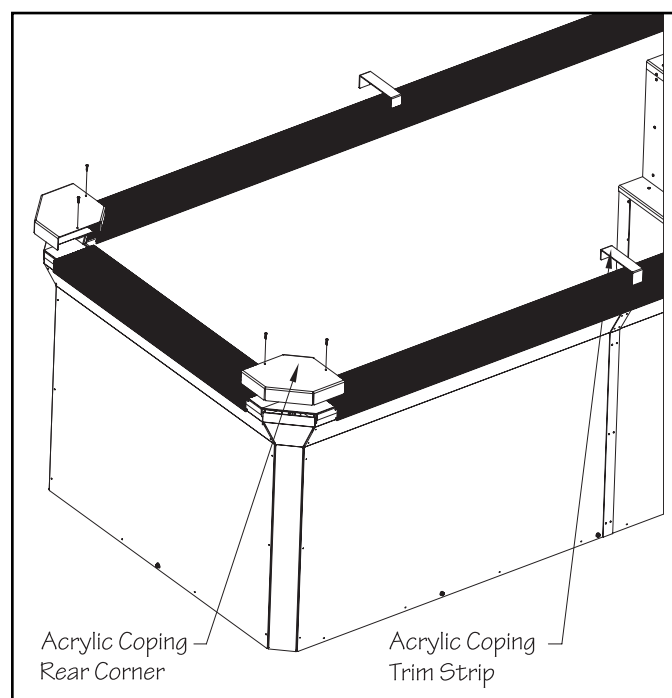

Fig. 71
**At the rear of the pool, apply silicone to the ends of each coping section to seal the gap between the coping and top flange.** Position the rear corner pieces in the rear corners of the pool. Use the provided 11/64" (4mm) drill bit to drill through the aluminum coping into the top flange of the pool using the pre-drilled holes in the corner pieces as a template. Use the 3/4" (19mm) truss head screws located in the coping corner hardware bag to secure each corner. Fig.71.
**Apply silicone to the seam between the sections of coping on the side walls.** Center a trim strip on each seam and adhere the trim strip to the aluminum coping. Fig. 71